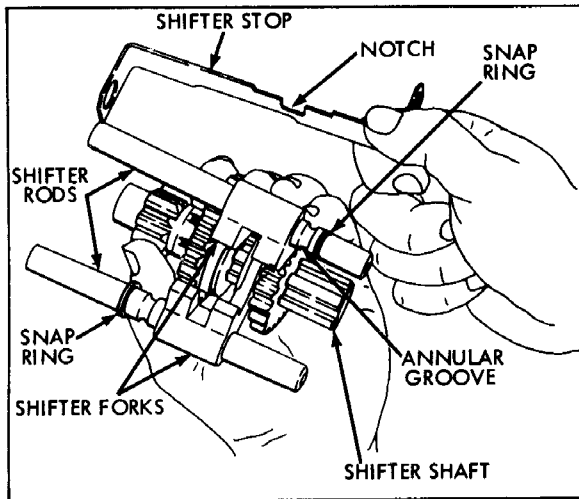
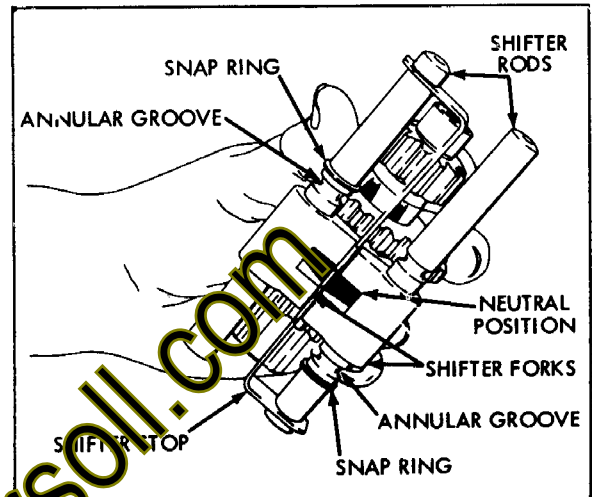

Figure 3-10
Figure 3-11
d. After the shifter fork and rod assemblies have been engaged with the flanged gears allow the shifter rods to lay open in the hand and position the shifter stop. (Figure 3-10). The notch in the shifter stop is the guide for correct positioning. Align this notch with the corresponding notches in the shifter forks and insert the shifter stop. Move the shifter rods together, (Figure 3-11) and insert into the transaxle. Remember to squeeze the ends